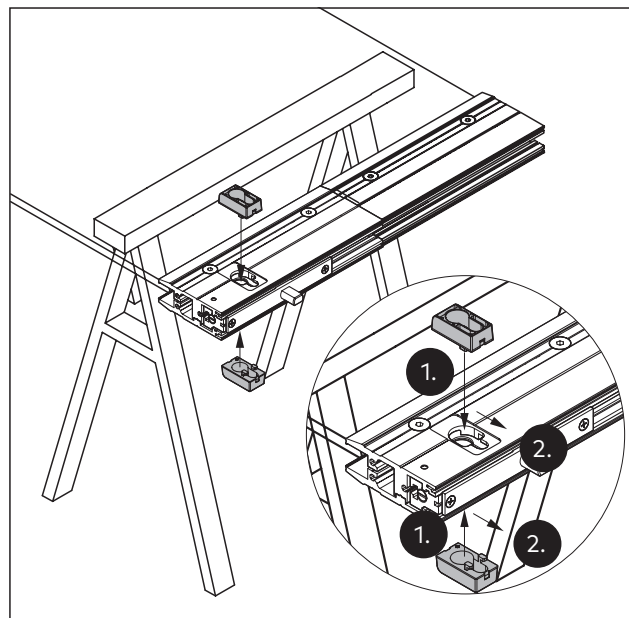

Fig. 10 Attaching and hooking in the lower roses
4. Attach the lower roses to the lock module (Fig. 10/1) and hook them in downwards (Fig. 10/2).